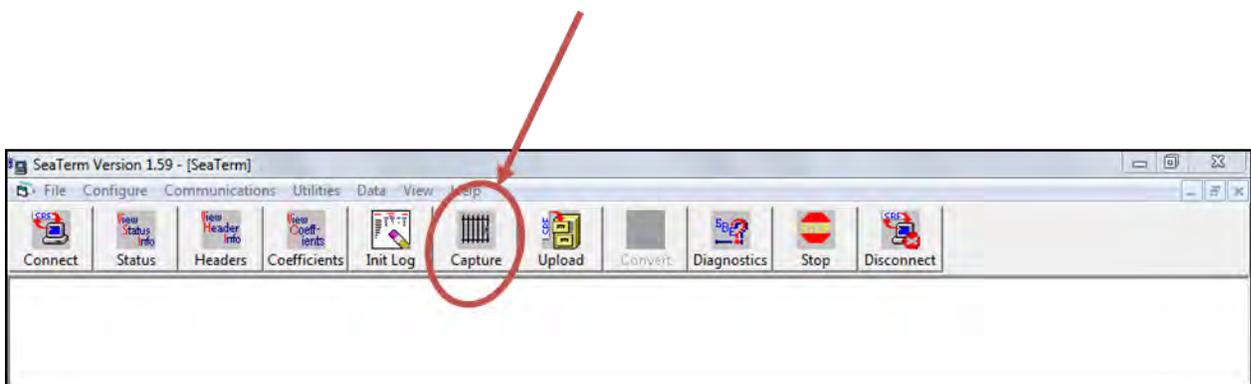

Figure 24. Image of SeaTerm software with Capture button highlighted.
3. Stop the capture file by clicking on the **Capture** button (Figure 24).